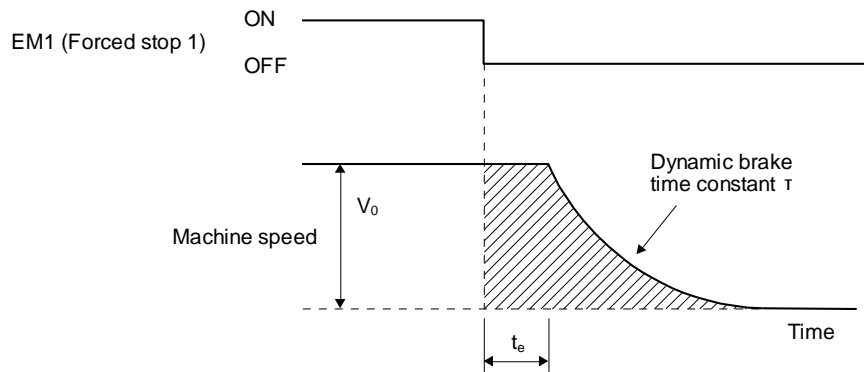

Fig. 10.3 Dynamic lock operation diagram
(1) Calculation of coasting distance
Fig. 10.3 shows the pattern in which the servo motor comes to a stop when the dynamic lock is operated. Use equation 10.2 to calculate an approximate coasting distance to a stop. The dynamic lock time constant τ varies with the servo motor and machine operation speeds. (Refer to (2) of this section.)